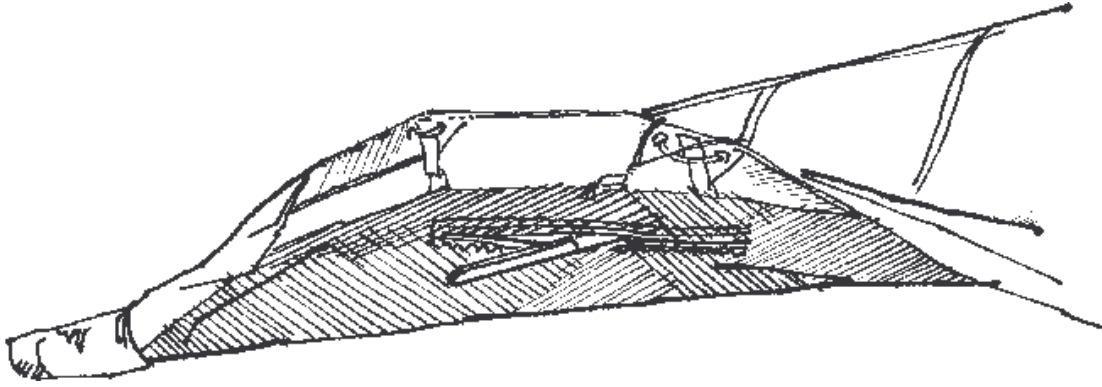

Fig. 14
4.1.3. Prepare for removal of the dive sticks by first unzipping the sail and removing strut from inner surface (Fig. 14).